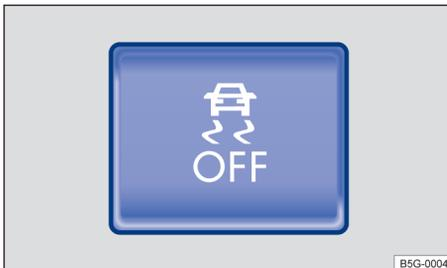

Fig. 125 In the lower center console: Button for switching ASR or ESC Sport mode on and off manually (if equipped).
Golf GTI only: If the vehicle is equipped with a  button in the lower center console → fig. 125, ASR can also be switched off by pressing the button. ESC Sport mode can also be switched on via this button
- **OR:** If the vehicle is equipped with a  button in the lower center console → fig. 125, ASR can be switched off by pressing the button when the ignition is on. Press the  button again to switch ASR back on.
The brake intervention functions of ESC are limited when ESC Sport is switched on. It can be switched on and off by pressing the  button → fig. 125.